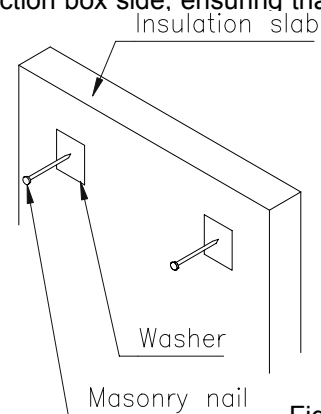

Fig. 7
1. Remove the convection box from the wall box by removing the 2 screws in the fire back (Fig. 7).